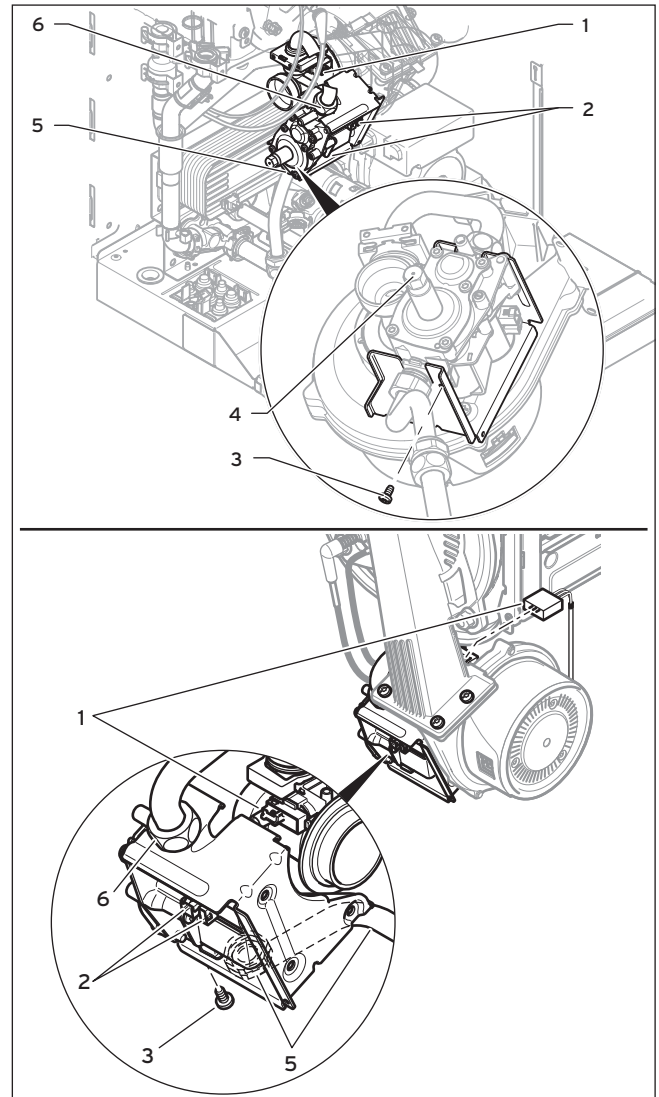

Fig. 2.3 Replacing the gas fitting
Group 2 heating devices for operation with natural gas are fitted with gas fittings without a gas pressure regulator (4, fig. 2.3). A gas fitting with a gas pressure regulator must be installed for operation with liquid gas.
- Remove the three plugs from the gas fitting (2, fig. 2.3).
- Remove the plugs on the sensor on the venturi (1) by depressing the detent.
- Unscrew both union nuts (6) and (5) on the gas fitting. Counter on the opposite side of the gas fitting with a flat spanner whilst unscrewing (5) / (6).
- Either remove the ventilator unit with gas fitting or unscrew the fastening bolt of the gas fitting from the bracket using an Allen key or a Torx T20 socket wrench (3).
- Do not spray any leak detection spray on the cover cap (2, fig. 2.3) on the filter of the venturi.